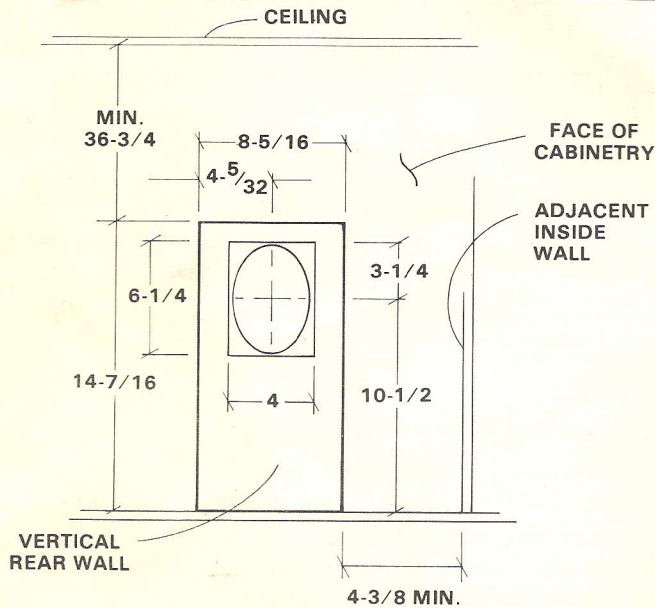

Figure 4
2. Position the heater inside the vehicle in the desired location with the furnace resting on the floor or on a durable shelf or platform if above floor installation and the oval vent opening at the rear of the furnace against the vertical outside wall. Mark the location of the oval vent opening on the vertical wall. If the final furnace installation is to be other than against the inside of this outside vertical wall, move the furnace to the desired location not more than 6" from the back edge of the furnace outer casing and the outside of the outer vertical wall. Remove the furnace and cut out openings for the vent. See Figure 4 for cut out dimensions of oval flue and cabinet.